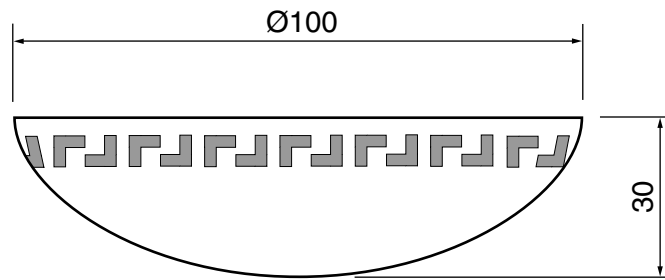

Fig. 5.1
- 5 Fig. 5.1 shows details of a hollowed sweet dish made from 1 mm thick copper.